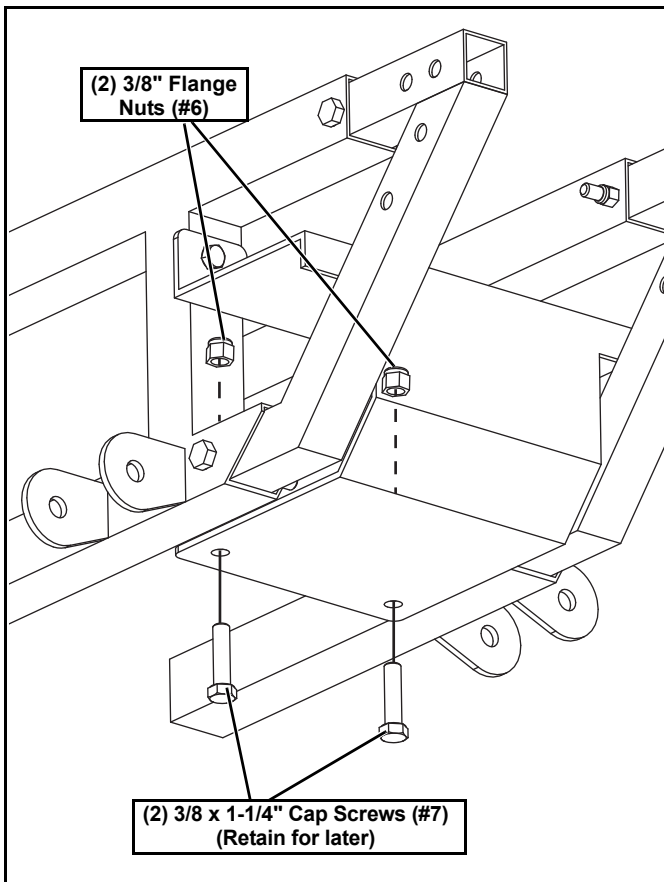

Figure 4
- Remove the lower (2) 3/8" x 1-1/4" Cap Screws (#7) and (2) 3/8" Flange Nuts (#6) in the Center Shield. Set aside hardware for installation steps. (See Figure 4.)